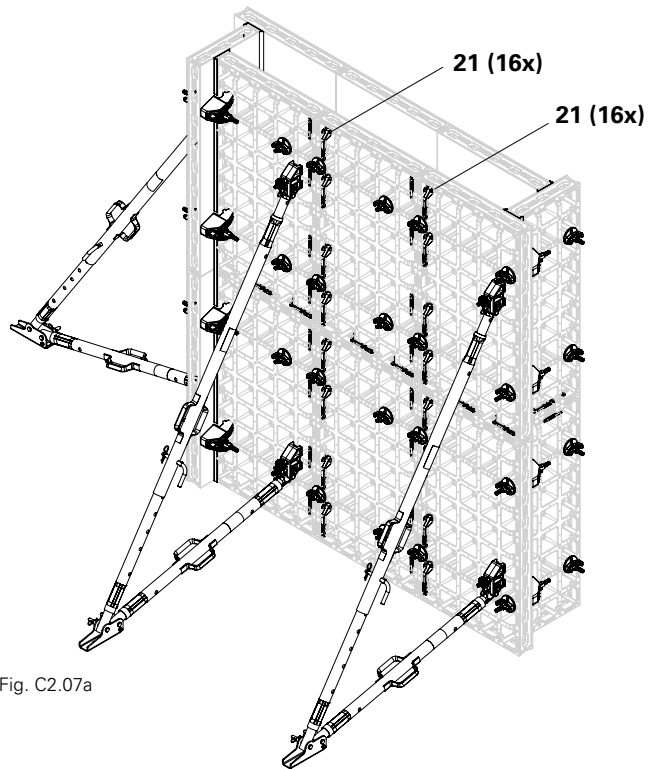

Fig. C2.07a
- Check the positions of ties and wingnut counterplates. Every wingnut counterplate must overlap the vertical joint of both panels (10) by a minimum of 12 mm. If not, install a DUO 62 compensation waler (25).
- Connect every vertical panel joint from both sides with 4 DUO couplers (21) each. (Fig. C2.07a)